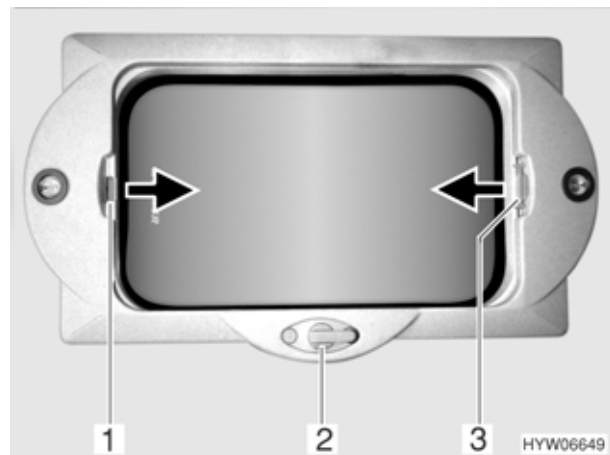

Fig. 54 Wind-up skylight
- Turn the wind-up skylight crank (Fig. 54,2) one direction or the other to raise (open) or lower (close) the wind-up skylight. Any setting is possible.
- Pull Roman shade (Fig. 54,3) in the direction indicated to the desired position. The Roman shade will stay in that position.
- Pull insect screen (Fig. 54,1) in the direction indicated until it touches the Roman shade (Fig. 54,3).
- Press the handle attached to the insect screen (Fig. 54,1).